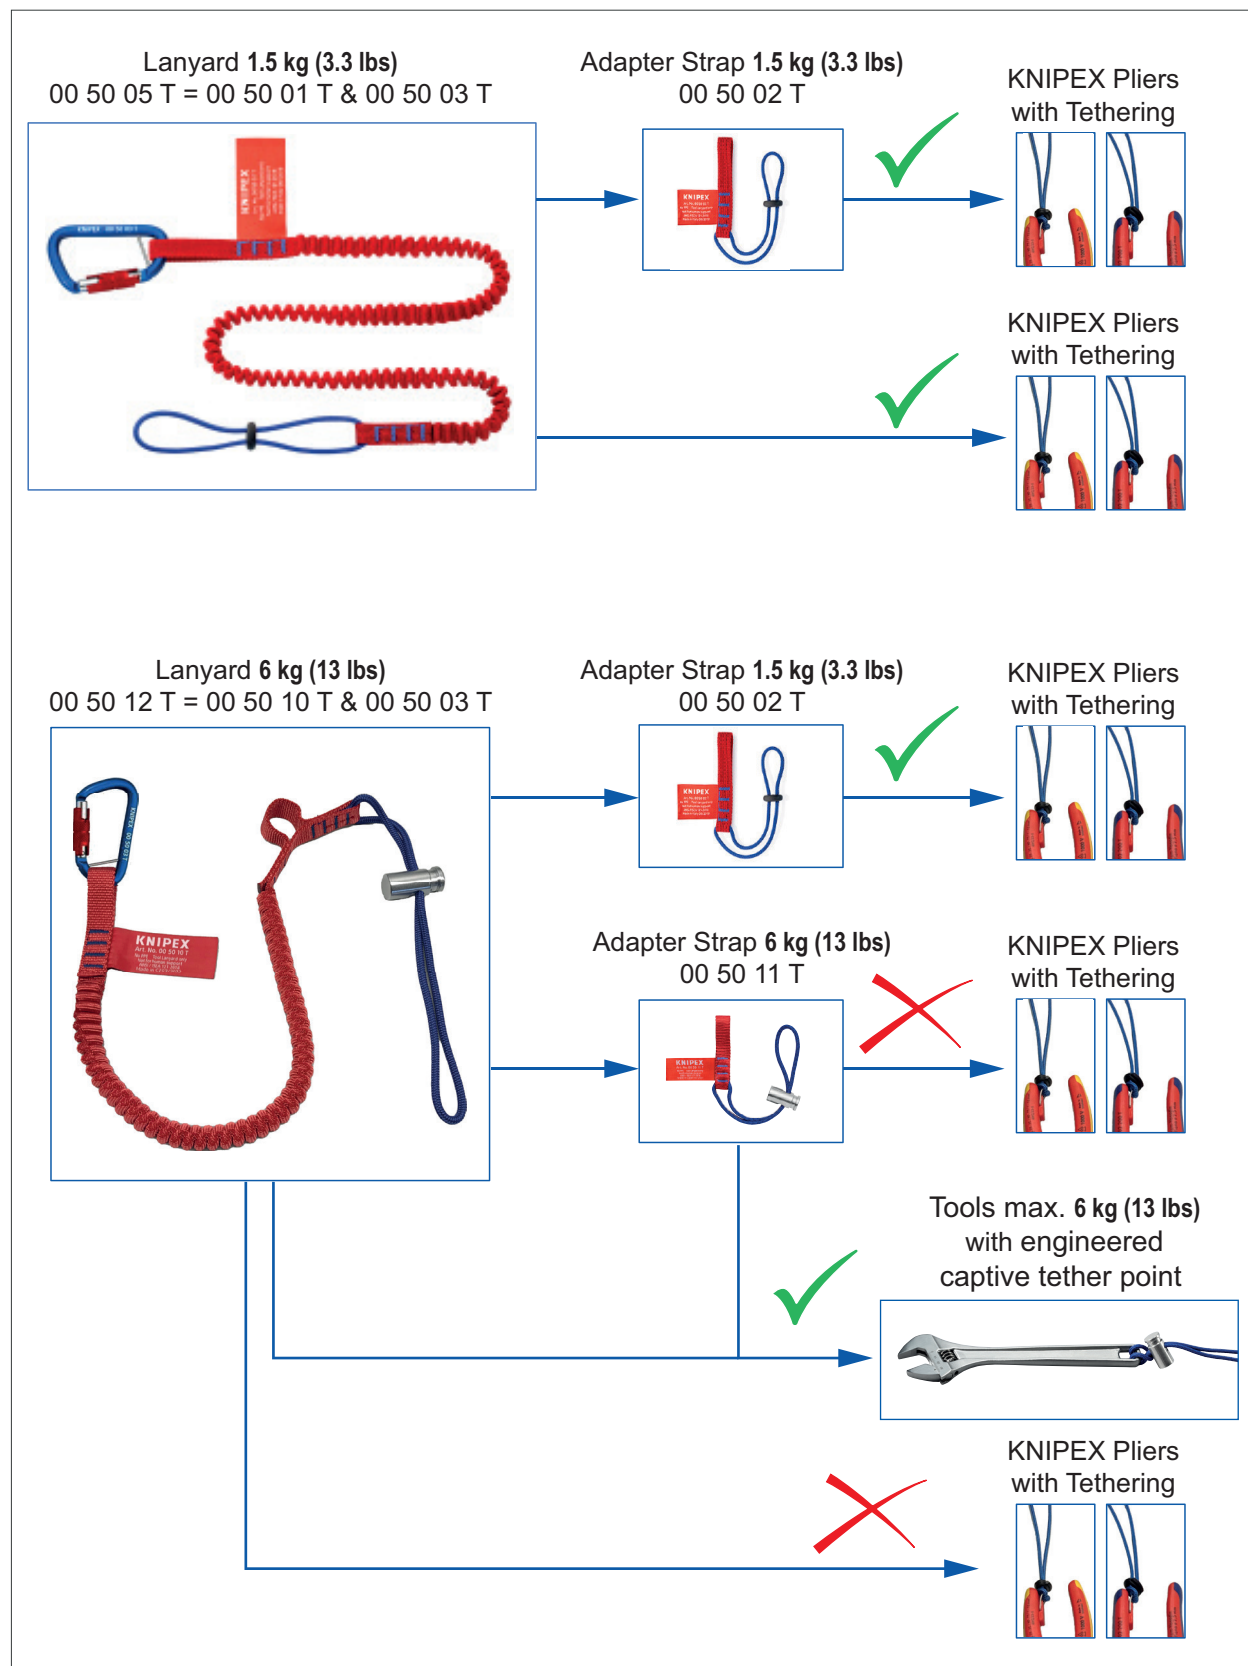

Figure 5: Compatibility to KNIPEX Tools with Tethering
- When connecting a KNIPEX Tool equipped with a tethering point to your Lanyard or Adapter Strap, check (Figure 5), to see if your Lanyard or Adapter Strap is compatible.
- To connect a KNIPEX Tool with tethering to the 6 kg (13 lbs) Lanyard (KNIPEX 00 50 10 T) you must use the 1.5 kg (3.3 lbs) Adapter Strap (KNIPEX 00 50 02 T) (Figure 5)